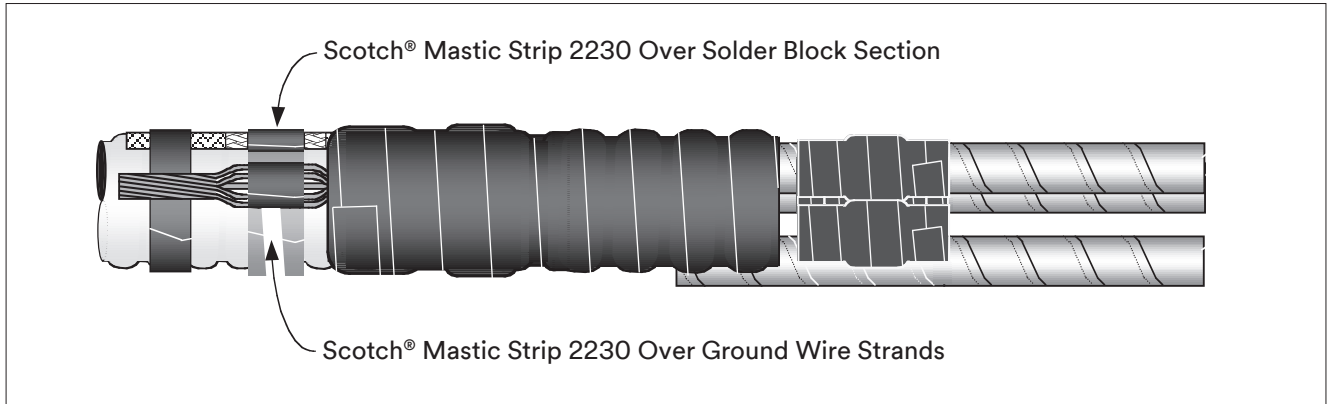

Figure 10
- 3.13 Apply one strip of Scotch® Mastic Strip 2230 around ground wire strands (Figure 10). Apply one mastic seal strip around solder block section of ground braid tail. Align seal strip wraps with previously applied mastic band around cable jacket.